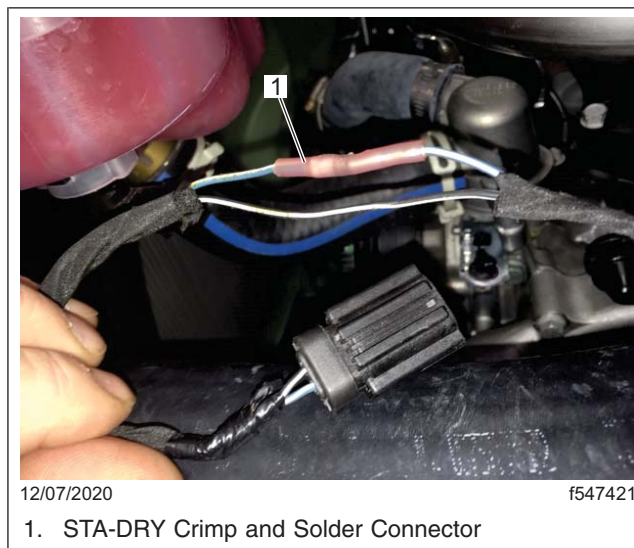
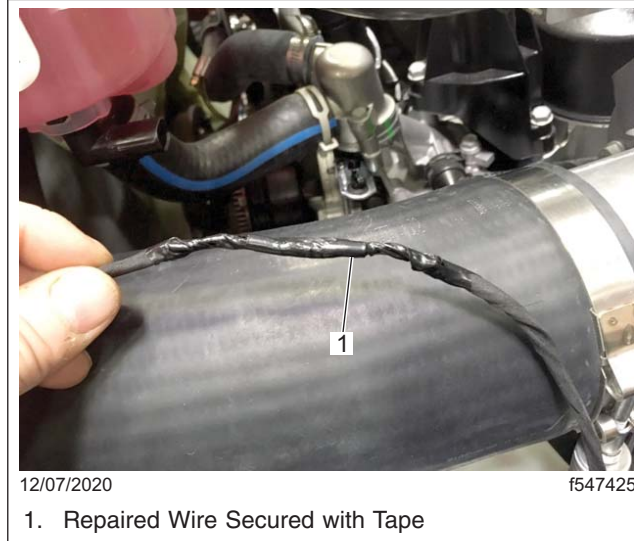

Fig. 3, Wire Repaired with STA-DRY Connector
Fig. 4, Tapped Wire after Repair
5. Repair the damaged wiring using a Phillips STA-DRY crimp and solder connector (PHM 1 1863). See Fig. 3. Use a heat gun to shrink the seal and melt the internal solder after crimping the Sta-Dry connector and then wrap it with tape. See Fig. 4.